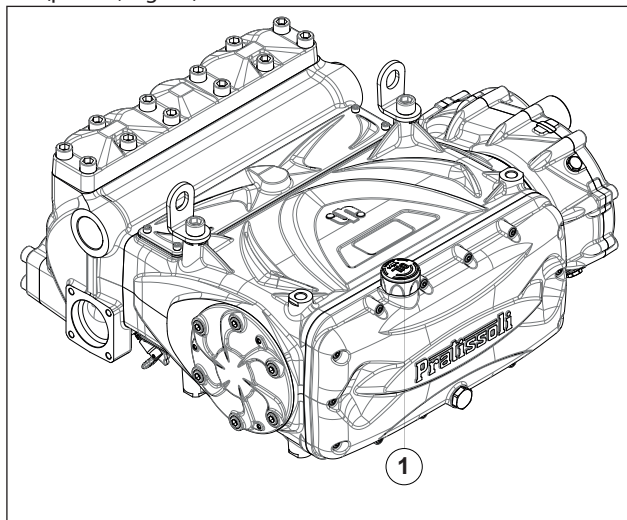

Fig. 10
5. Oil in the pump casing is at level, verified with a dipstick (pos. ①, Fig. 10).